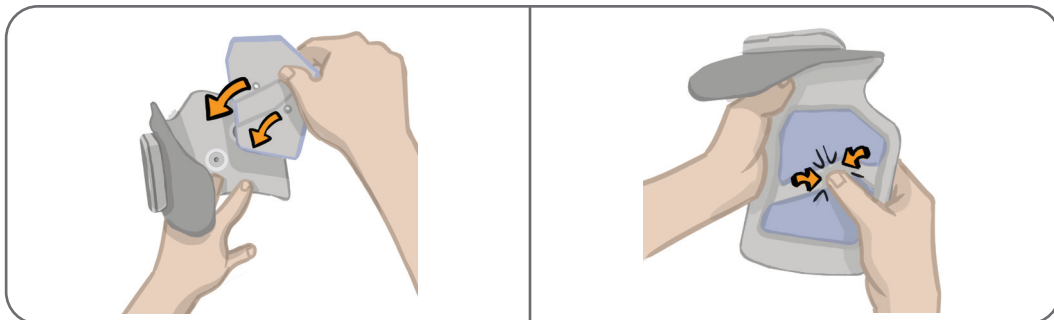

Figure 6-4: Aligning and Attaching the Quick Fit Electrode
5. Align the orange and blue snaps on the Quick Fit Electrode with the orange and blue plug holes on the Lower Leg Cuff. See Figure 6-4.
6. Press firmly to snap the Quick Fit Electrode into the Lower Leg Cuff. See Figure 6-4.